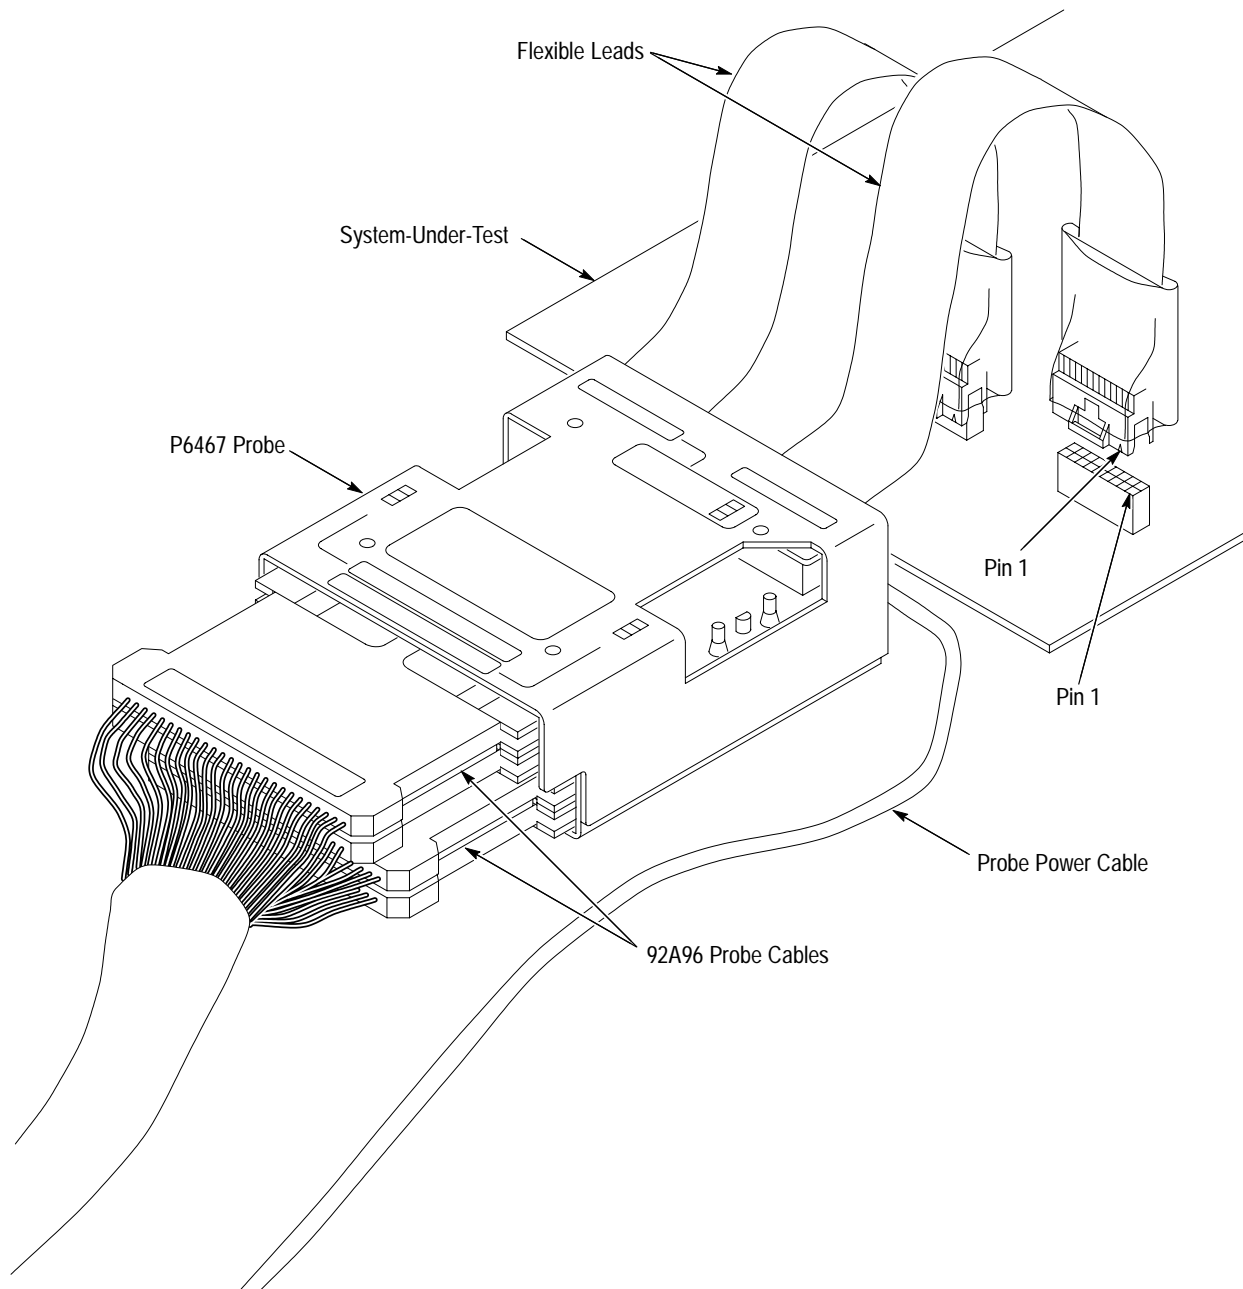

Figure 7: Connecting the Probe to the System-Under-Test
5. Connect the flexible leads of the probe to the system-under-test. Refer to Figure 7 to ensure that you properly connect the probe to the system-under-test (pin 1 of the probe to pin 1 of the probe connector).